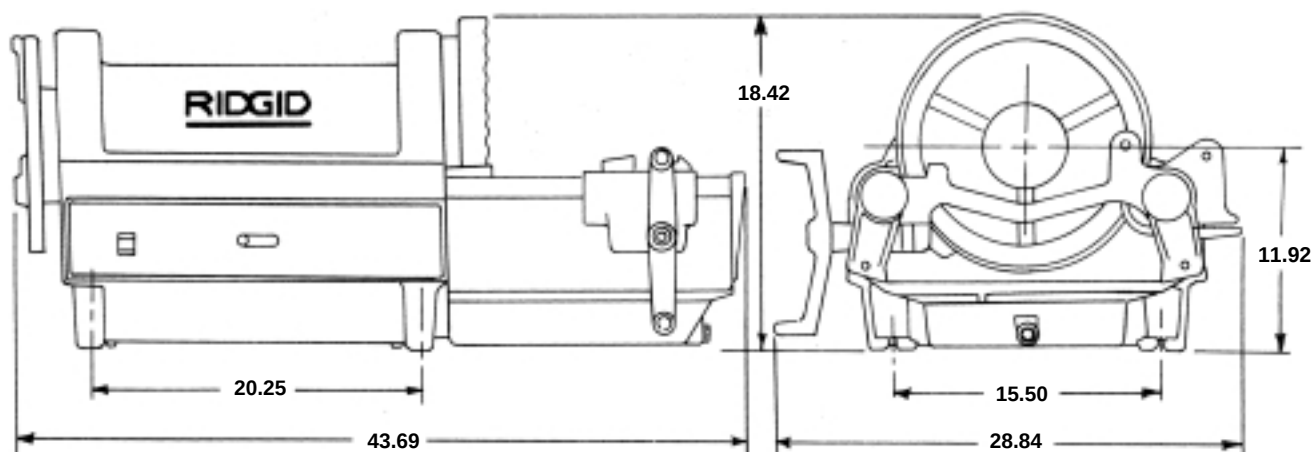

Figure 2 – 1224 Machine Dimensions
1. If a stand is not used, the machine should be mounted to a stable bench. To mount the unit on a bench, use four (4) $\frac{3}{8}$ " bolts in holes provided at each corner of machine base. Base dimensions are shown in *Figure 2*.